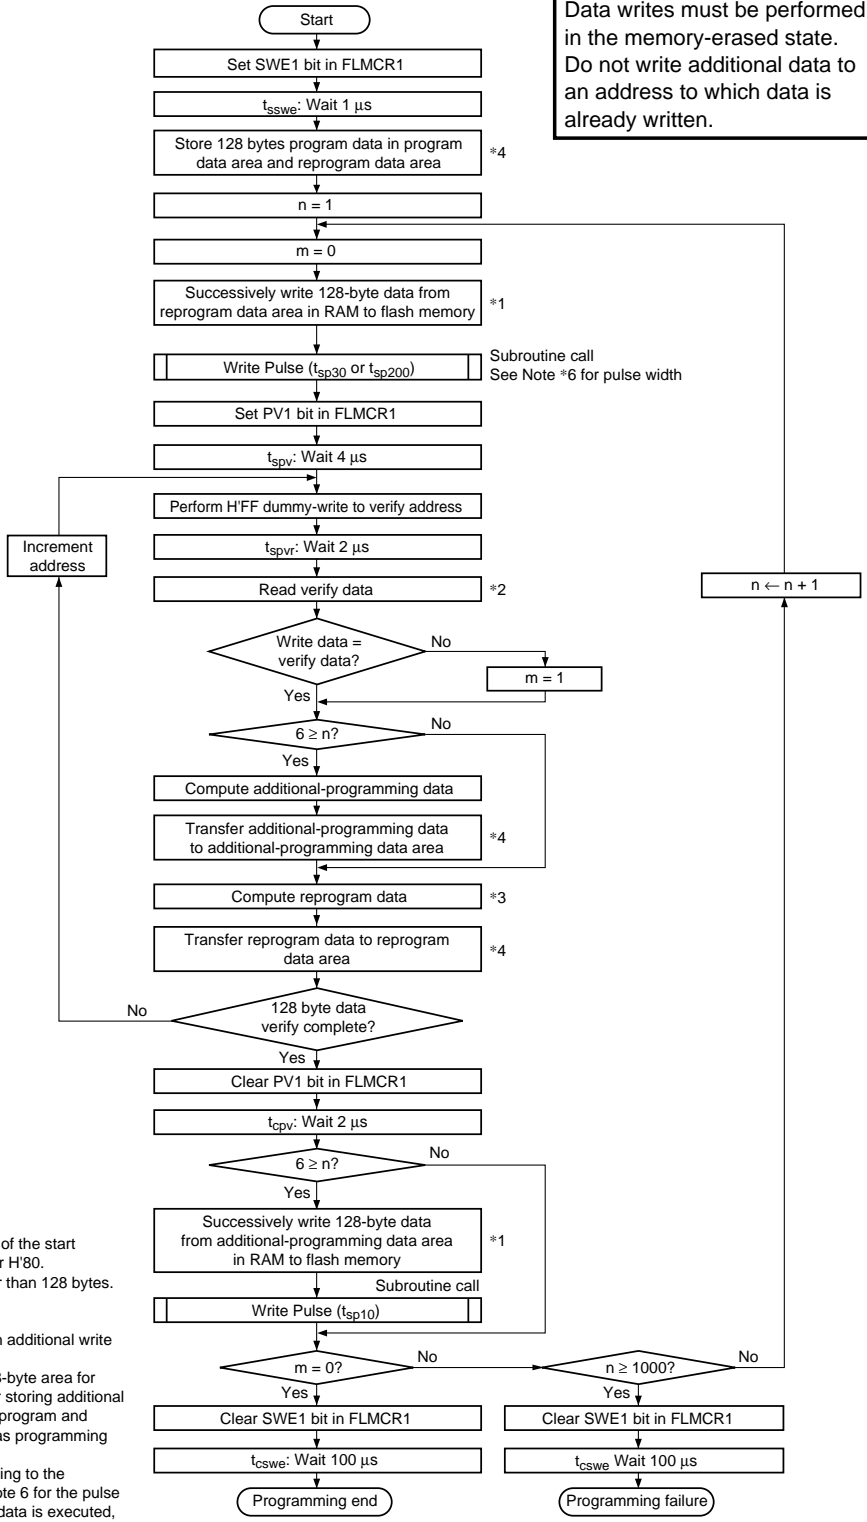

Figure 17.14 Program/Program-Verify Flowchart
Follow the procedure shown in the program/program-verify flowchart in figure 17.14 to write data or programs to flash memory. Performing program operations according to this flowchart will enable data or programs to be written to flash memory without subjecting the device to voltage stress or sacrificing program data reliability. Programming should be carried out 128 bytes at a time.
After the elapse of a given programming time, the programming mode is exited (the P1 bit in FLMCR1 is cleared, then the PSU1 bit is cleared at least (t_{cp}) μ s later). The watchdog timer is cleared after the elapse of (t_{cpsu}) μ s or more, and the operating mode is switched to program-verify mode by setting the PV1 bit in FLMCR1. Before reading in program-verify mode, a dummy write of H'FF data should be made to the addresses to be read. The dummy write should be executed after the elapse of (t_{spv}) μ s or more. When the flash memory is read in this state (verify data is read in 16-bit units), the data at the latched address is read. Wait at least (t_{spvr}) μ s after the dummy write before performing this read operation. Next, the originally written data is compared with the verify data, and reprogram data is computed (see figure 17.14) and transferred to the reprogram data area. After 128 bytes of data have been verified, exit program-verify mode, wait for at least (t_{cpv}) μ s, then clear the SWE1 bit in FLMCR1 to 0. If reprogramming is necessary, set program mode again, and repeat the program/program-verify sequence as before. However, ensure that the program/program-verify sequence is not repeated more than (N) times on the same bits.